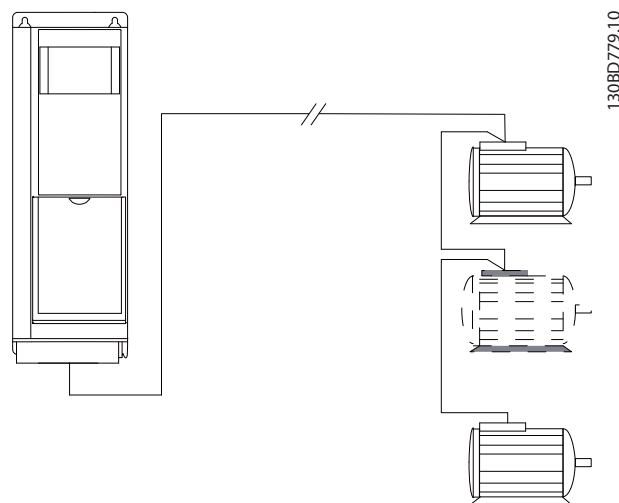

Figure 3.16 Long Cables in Series Connection
- For long cables without parallel connection, see Figure 3.16.